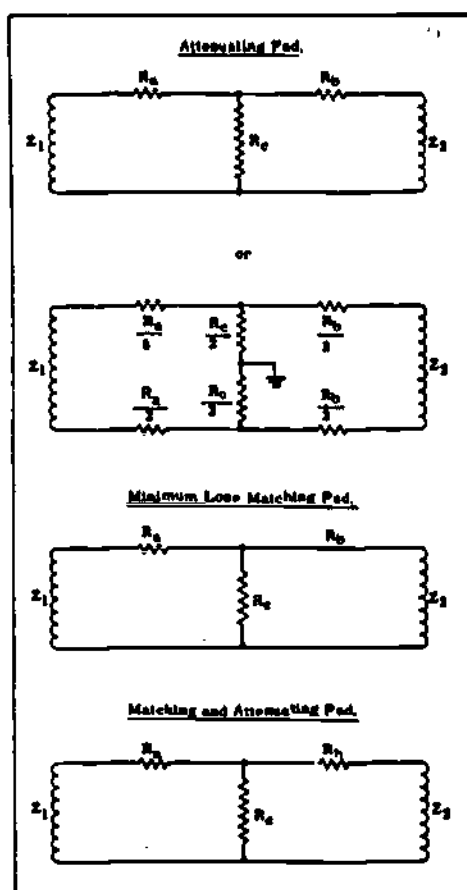

Figure 8. Pads
1. ATTENUATING PAD - Pad circuits can be computed using the network matching and attenuation nomograph as illustrated in Figures 8 and 9.